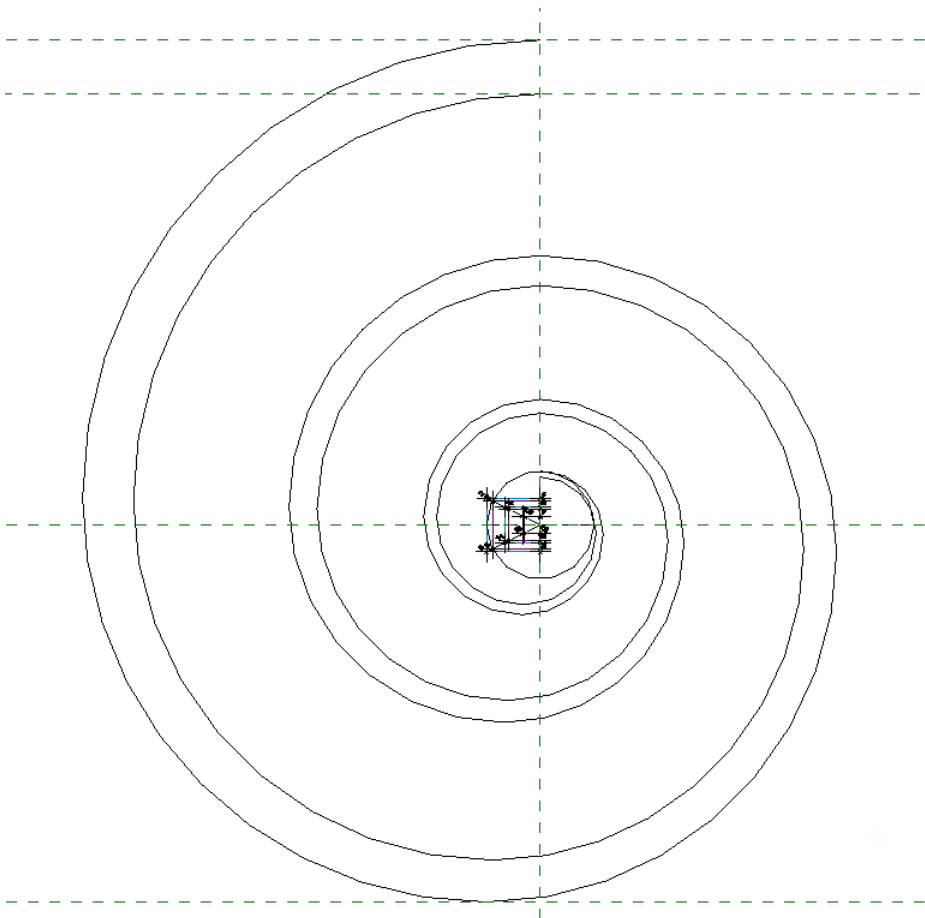

FIGURE 14—ALL OF THE ARCS COMPLETE
11. On the View Control Bar, from the Temporary Hide/Isolate pop-up, choose **Reset** (see Figure 14).